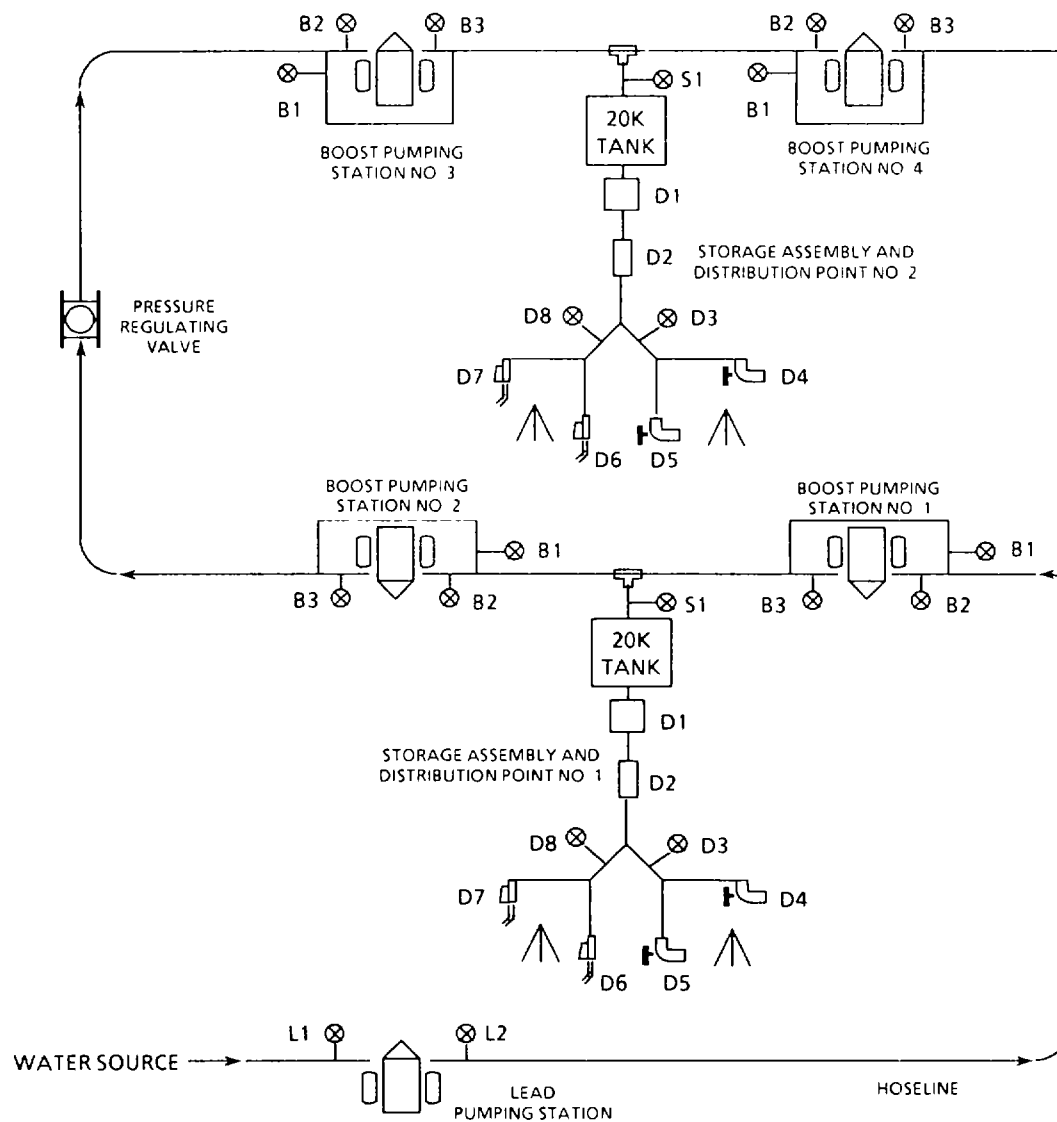

Figure 2-30. Water System Control Valves.
- b. Fill Hoseline (Packing). Refer to figure 2-30. Before system startup, the hoseline must be filled with water to ensure priming of 600 gpm pumps and prevent damage to hoses from high winds. Filling (packing) of the hoseline is required when starting the system for the first time and after replacing or repairing a segment of the hoseline.
- (9) Allow all pumps to operate until hoseline has been filled with water and contaminants are flushed from hoses, pumps and components.
- (10) When flushing is complete, shutdown 600 gpm pumps beginning with boost pumping station no 4, then boost pumping station no 3, no 2 and no 1 (refer to applicable TM). As each pump is shutdown, close suction valves B2 and discharge valves B3.
- (11) Shutdown 600 gpm pump at lead pumping station (refer to applicable TM).
- (12) Close suction valve L1 and discharge valve L2.
- (13) Reconnect hoseline to water storage and distribution system.
- c. Startup Refer to figure 2-30. Operation of the TWDS requires a minimum of seven operators. One operator is required for each pump station and one for each storage and distribution point. Operators must be in communication at all times.
- (1) If pressure regulating valve is installed, set three bypass control valve handles to open position (para 2-6).
d Shutdown. Refer to figure 2-30/